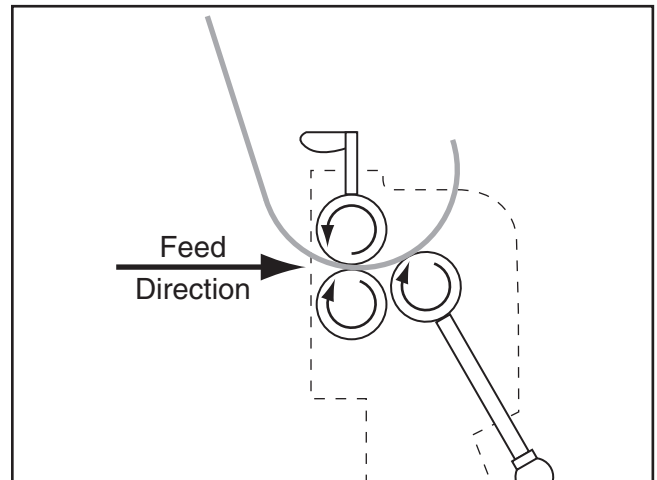

Figure 27. Curving the workpiece from the opposite end.
6. Rotate the workpiece 180°, insert the curved end into the rollers, then process it through the machine, as illustrated in **Figure 27**.